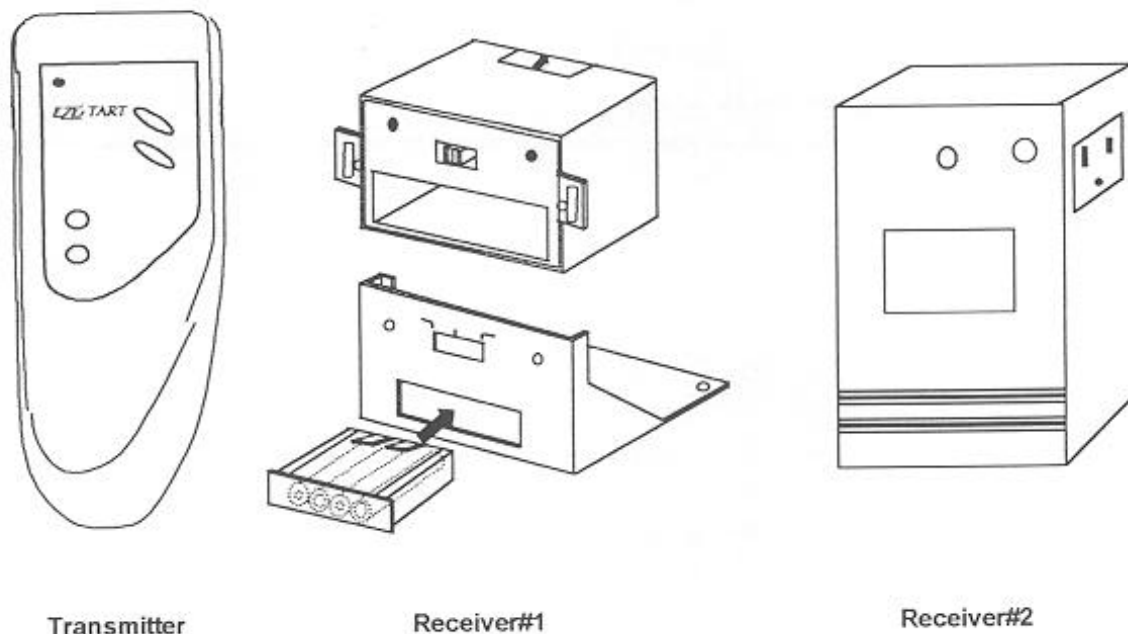

Figure 1
The package consists of a **transmitter** and two (2) **receivers** (See Fig.1).